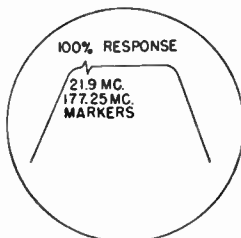

Figure 56d
Reduce the generator sweep in the sound discriminator alignment to 300 Kc. and adjust the discriminator trimmers (C141, C142 and C143) so that (1) the 4.5 Mc. marker is exactly in the center of the curve, (2) the curve is linear between 4.55 Mc. and 4.45 Mc. and (3) the amplitude is the greatest obtainable. See Figure 56d for the desired response.